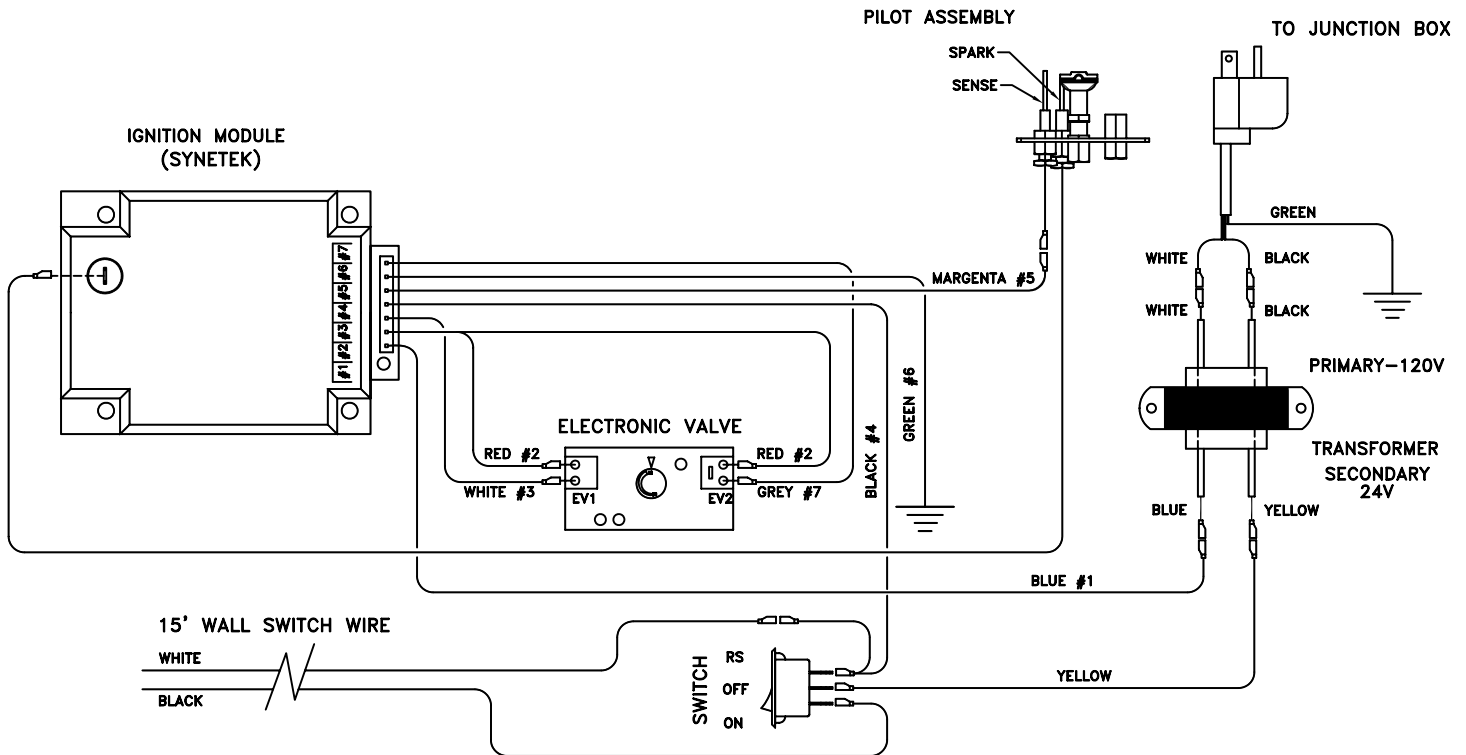

Figure 39 - Electronic Ignition System Wiring Diagram
2. Connect the wire terminal from the remote receiver. This replaces the 15' wall switch connection to the switch. See *Figure 39*.